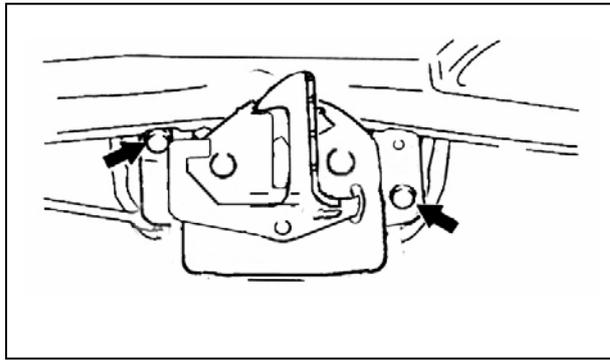

Fig. 19-33
- ③ Adjust bonnet latch and striker to mesh well as shown in Fig. 19-33